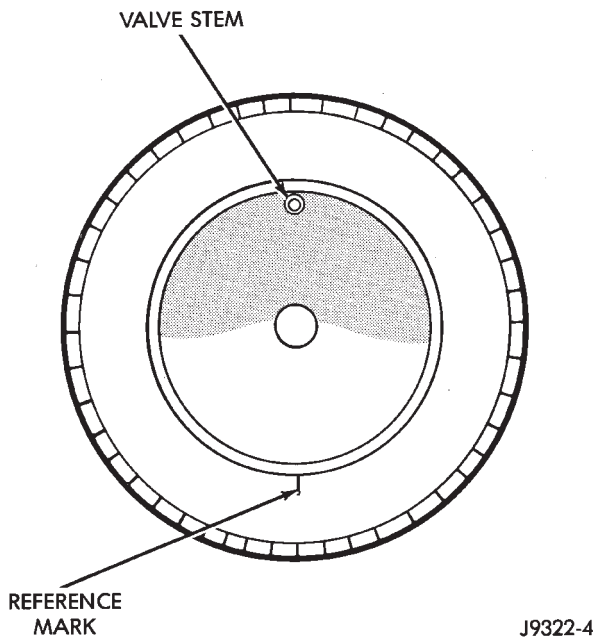

Fig. 9 Remount Tire 180 Degrees
(2) Break down the tire and remount it 180 degrees on the rim (Fig. 9).